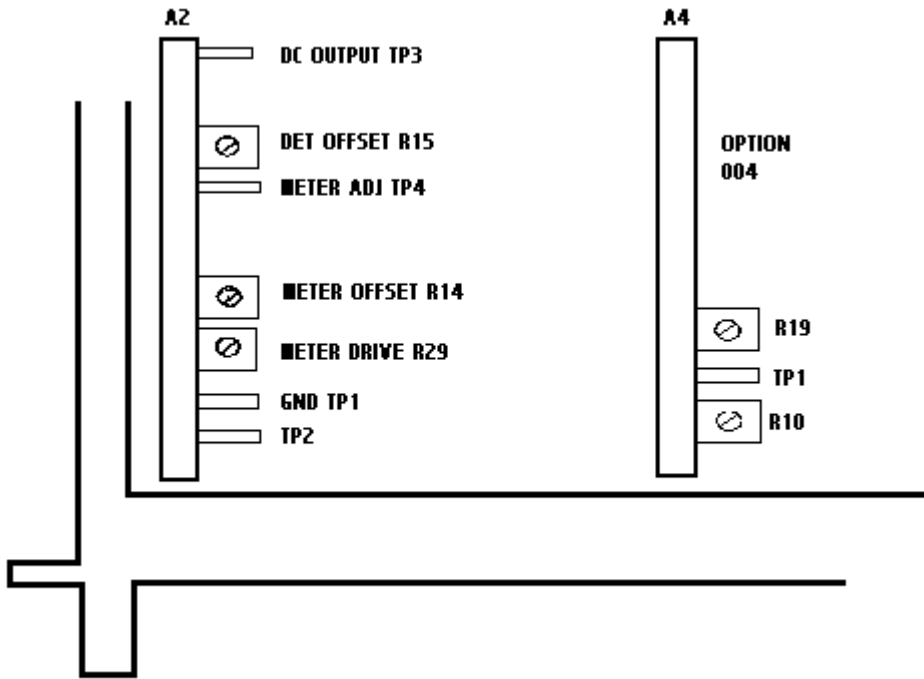
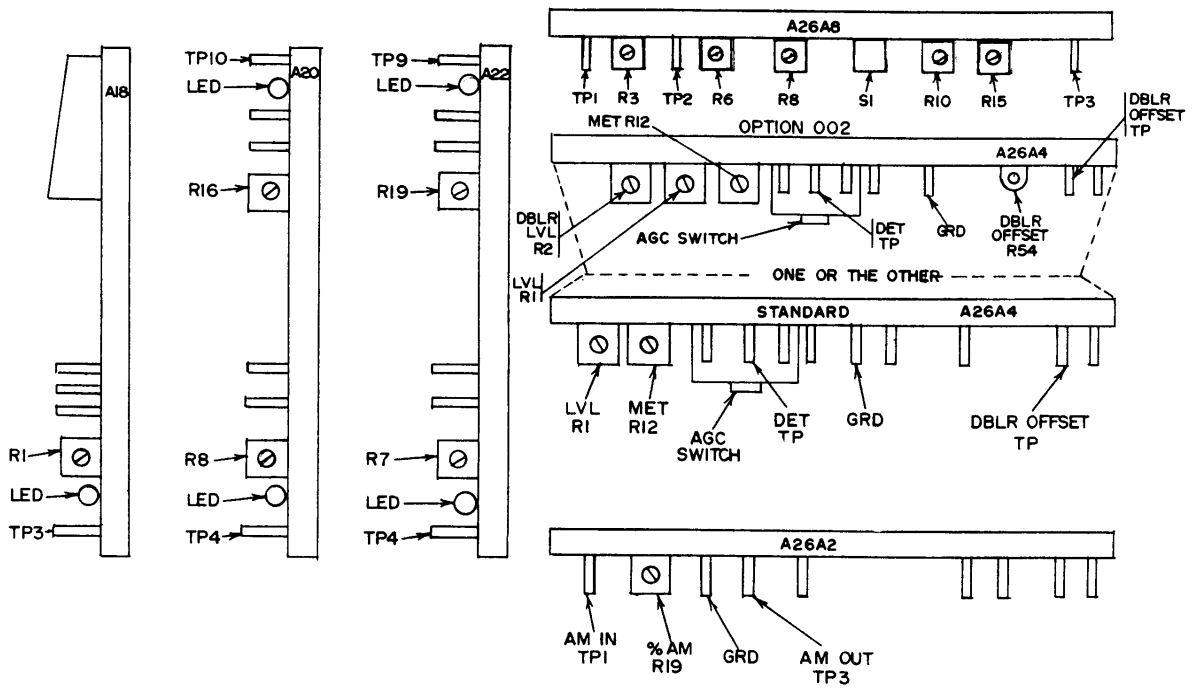
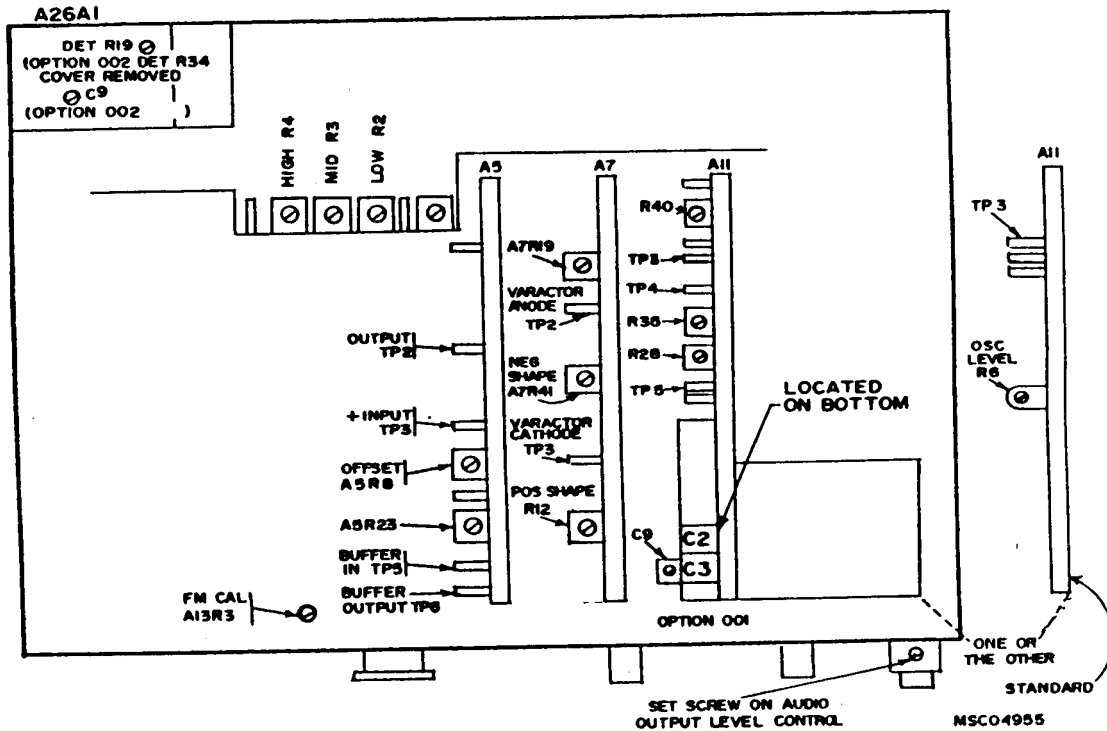

Figure 1. TEST instrument, top left hand side.
Figure 2. Test instrument - top back side.
Figure 3. TEST instrument - bottom view.
(1) Position controls as listed in (a) through (d) below:
(2) Connect multimeter **INPUT HI** to DC OUTPUT A2TP3 (fig. 1) and **INPUT LO** to GND A2TP1 (fig. 1). Adjust DET OFFSET A2R15 (fig. 1) for multimeter indication of 0.000 ± 1 mV dc (R).
(3) Disconnect multimeter **INPUT HI** from DC OUTPUT A2TP3 and connect **INPUT HI** to METER ADJ A2TP4 (fig. 1).
(4) Adjust METER OFFSET A2R14 (fig. 1) for multimeter indication of 0.000 ± 1 mV dc (R).
(5) Disconnect multimeter **INPUT HI** from METER ADJ A2TP4 (fig. 1) and connect **INPUT HI** to AM IN A26A2TP1 (fig. 2).
(6) Set **AM** switch to **INT** and adjust **AM** control for a multimeter indication of 0.707 V ac. Adjust **METER DRIVE A2R29** (fig. 1) for **TI** meter indication of 10 on 0 to 10 scale (R).
(7) Adjust **AM** control for **TI** meter indications listed in table 13. Multimeter will indicate as specified; if not, readjust **METER DRIVE A2R29** (fig. 1) for best in-tolerance condition.
(10) Set measuring receiver to measure **AM** with **AVG DETECTOR**.
(11) Adjust **AM** control for a measuring receiver indication of approximately 20%. Press measuring receiver **RATIO %** key.
(12) Adjust **OUTPUT LEVEL** vernier control(s) for a **TI** meter indication of **-7dB**.
(13) Adjust **DET A26A1R19** (**A26A1R34** for option 002) (fig. 3) for measuring receiver indication of 100% (R).
- (14) Set **OUTPUT LEVEL** vernier control(s) fully cw.
- (15) Measuring receiver will indicate between 99.5 and 100.5%, if not, repeat (11) through (14) above while readjusting A26A1R19 (A26A1R34 for option 002) (fig. 3) for best in-tolerance condition.
- (16) Set **AM** switch to **OFF**.
- (17) Set measuring receiver to measure RF power.
- (18) For option 002 only, set DBLR OFFSET A26A4R54 (fig. 2) to mid-range.
- (19) Adjust LVL A26A4R1 (fig. 2) for a +13.2 dBm measuring receiver indication (R).
- (20) Adjust **OUTPUT LEVEL** vernier control(s) for a +13.0 dBm measuring receiver indication. Adjust MET A26A4R12 (fig. 2) for TI meter indication of +3 dB (R).
- (21) For option 002, proceed to (22) below. For all other models, repeat a above.
- (22) Set **RANGE MHz** switch to **1024-512** and adjust **FREQUENCY TUNE** control for **FREQUENCY MHz** display indication of 800 MHz.
- (23) Adjust DBLR LVL A26A4R2 (fig. 2) for a +13.0 dBm measuring receiver indication (R).
(24) Set **RANGE MHz** switch to **64-32** and **FREQUENCY TUNE** for 50-MHz display indication. Adjust **OUTPUT LEVEL** vernier control ccw for a +3-dBm measuring receiver indication.
(25) Set **RANGE MHz** switch to **1024-512**. Adjust DBLR OFFSET A26A4R54 (fig. 2) for a +3 dBm measuring receiver indication (R).
(26) Set **RANGE MHz** switch to **64-32** and adjust **OUTPUT LEVEL** vernier control fully cw. If measuring receiver does not indicate +13.2 dBm, repeat (19) above.
(27) Repeat (20) through (26) above until measuring receiver indication at 800 MHz is within ± 2 dBm of the 50 MHz indication.
(28) Set **RANGE MHz** switch to **1024-512** and adjust **FREQUENCY TUNE** control for **FREQUENCY MHz** display indication of 700 MHz.
(29) Set **OUTPUT LEVEL** switch to **+20 dBm** and set **OUTPUT LEVEL** vernier control(s) fully cw. Adjust A26A1C9 (fig. 3) for maximum measuring receiver indication (not to exceed +17 dBm) (R).
(30) Position controls as listed in (a) through (e) below.
(35) Adjust oscilloscope controls as necessary to display detected RF output signal. Readjust A26A1C9 (fig. 3) slightly (if required) to limit ringing and eliminate oscillations as indicated on oscilloscope display.
(36) While observing oscilloscope display, slowly vary TI frequency from 512 to 1024 MHz. Readjust A26A1C9 (fig. 3) for a stable square wave indication on oscilloscope display.